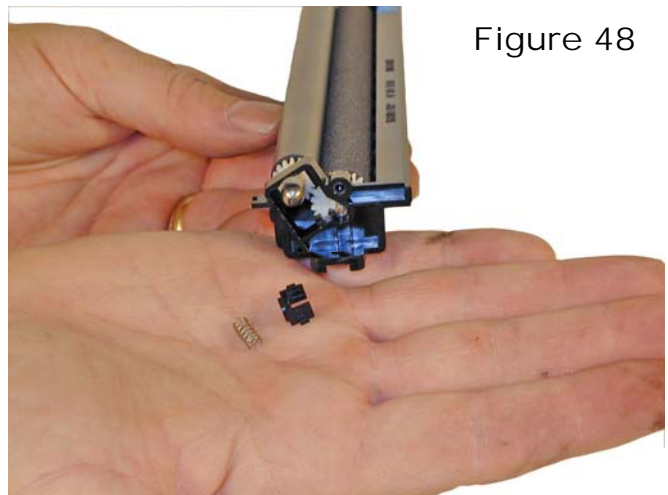

Figure 48
41) Press down on the PCR shaft and pry the black PCR holder out from the inside. Make sure you don't lose the spring! See **Figure 48**